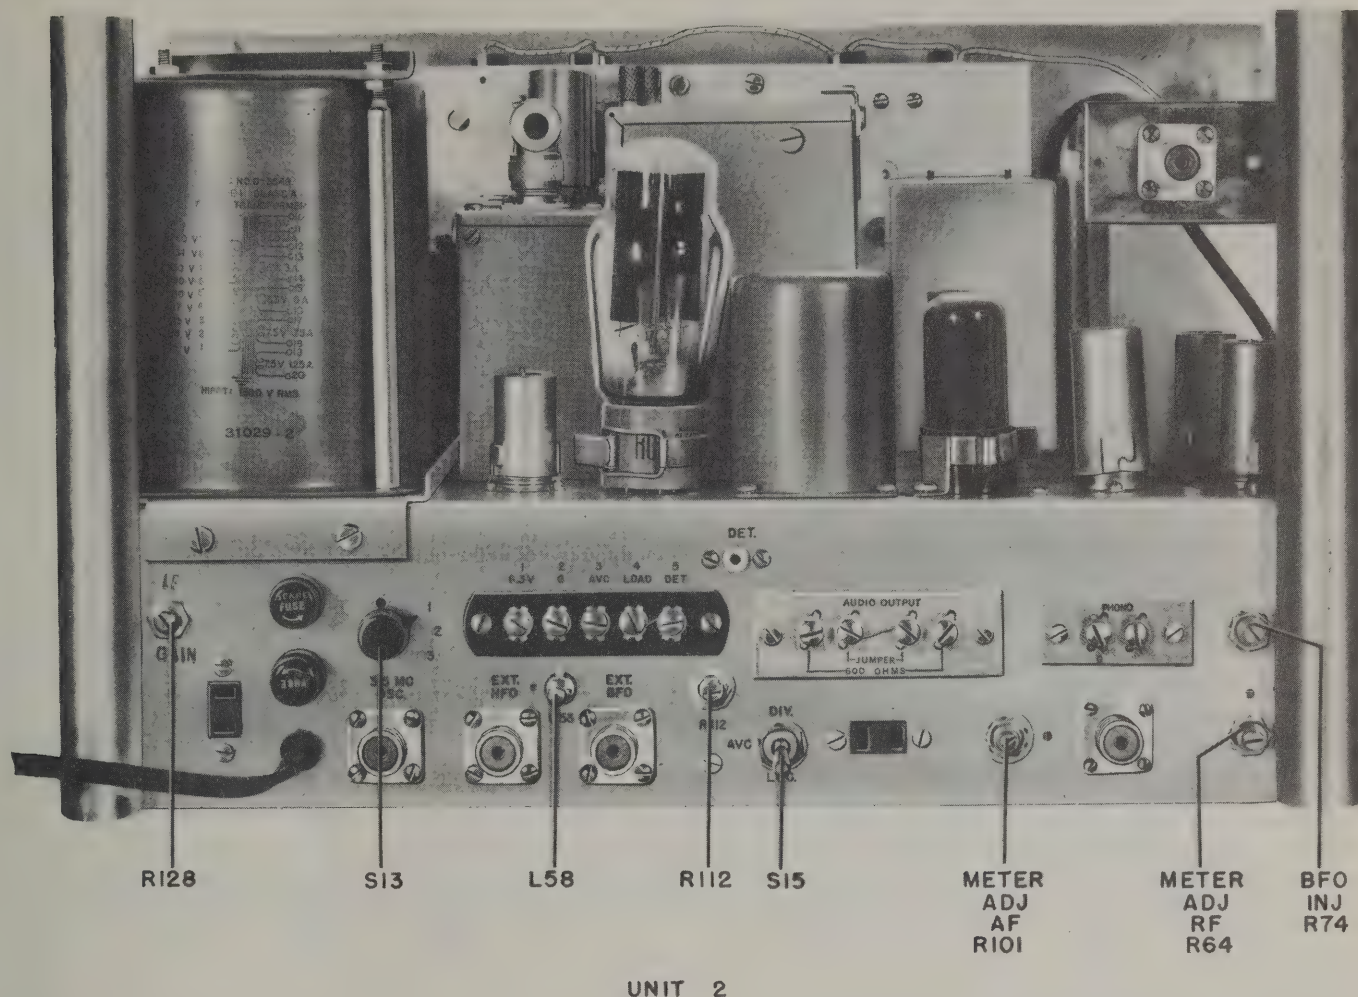

Figure 3-5. Receiver R-450/FRR-28, Rear View, Pre-Operation Adjustments
b. INITIAL ADJUSTMENT OF RADIO RECEIVER R-450/FRR-28. (See figures 3-5, 4-1.)
(1) ADJUSTMENT OF METER ADJ RF CONTROL.—Apply a 10-microvolt RF signal, within the frequency range of the receiver, to the antenna terminals. Set receiver controls as follows:
Set METER ADJ RF R64 control, located at the rear of the receiver, as shown in figure 3-5, to position where meter reads "20 db". Failure to obtain 20 db indicates possible misalignment of the receiver. The alignment procedure is given in Section 7.
(2) ADJUSTMENT OF METER ADJ AF CONTROL. (See figure 3-5.)
(3) BFO INJECTION CONTROL ADJUSTMENT. (See figure 3-5.)—Set controls and connections according to procedure in paragraph 4b(1) of this section. Turn BFO INJECTION control R74 on rear of receiver to the maximum clockwise position for maximum injection.
(4) IF GAIN CONTROL ADJUSTMENT. (See figure 3-5.)—The setting of this control, R128, depends on the terminal equipment used. Connect ter-